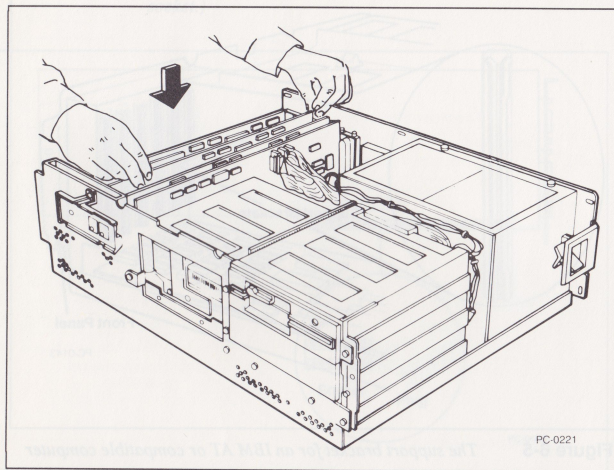

Figure 6-6 Inserting the Above™ Board in an IBM AT or compatible computer expansion slot
- 5 Hold the board at each corner of the top and push down as shown in Figure 6-6. The board should slide easily most of the way into the unused expansion slot. When you feel some resistance, check the alignment. Then push down firmly to seat the board in the expansion slot connector.